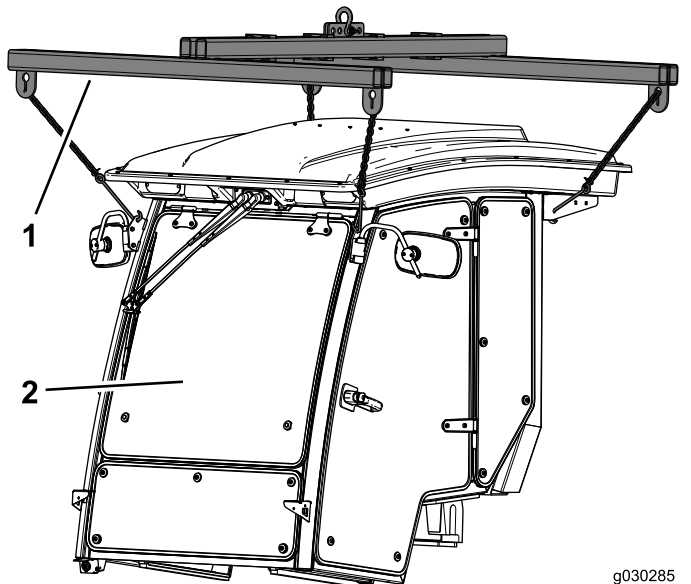

Figure 16
1. Use the Toro cab hoist, or similar, to support the cab (Figure 16).